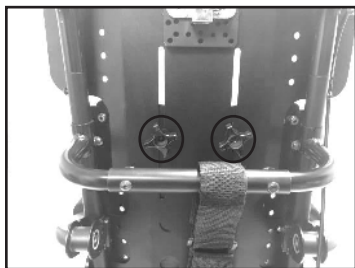

Fig. 22
1. Loosen the two back plate adjustment knobs. Fig. 22